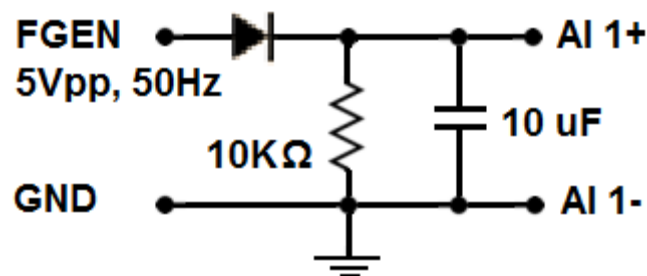

Figure 3.5: Half-wave rectifier circuit (with filter)
1. Connect the circuit as shown in the figure 3.5.